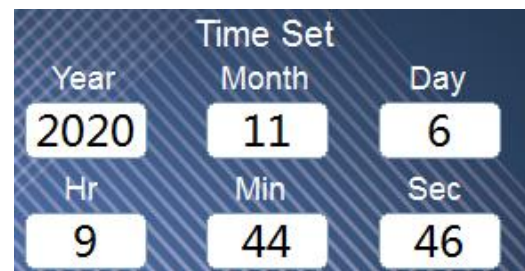

Figure 2-3: Time and Data Set-up
Tap the “Setting” Button Icon  to access the following screen (Figure 2-3: Time and Date Set-up).
- A standard pop-up window will appear allowing for numerical data entry. (Figure: 2-3)